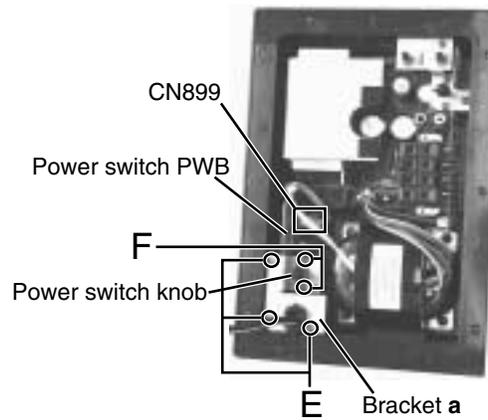

Fig.10
■ Removing the power switch PWB (See Fig.10)